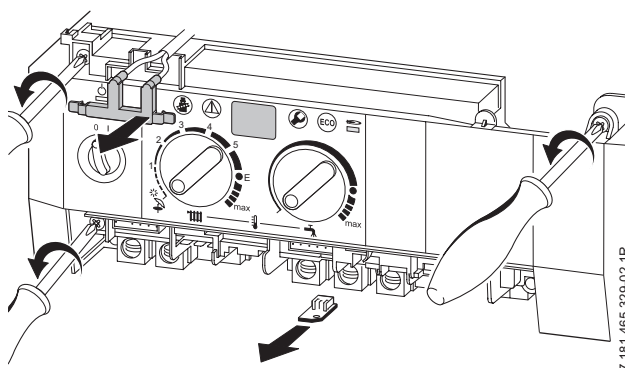

Fig. 57
- Remove two top fixing screws from the control box. Refer to fig. 57.